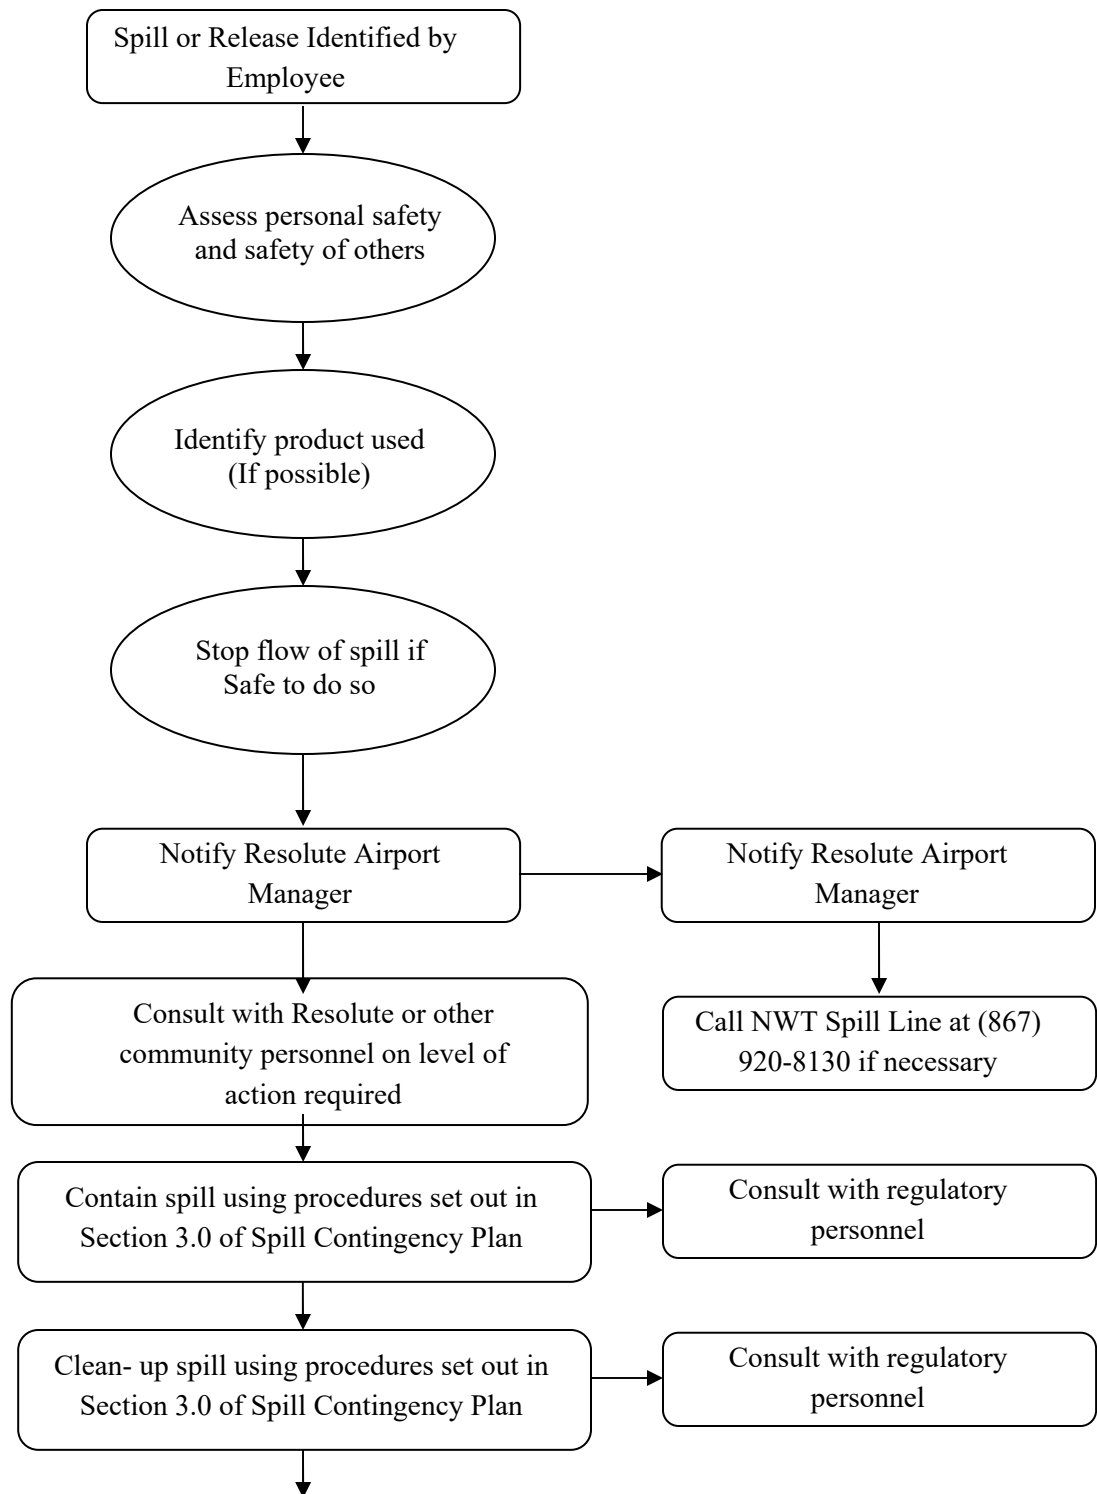

Figure 5: Flowchart of Spill Communication Lines
- Contact SAO/Foreman of the Hamlet of Kimmirut, as per flowchart in **Figure 5**.